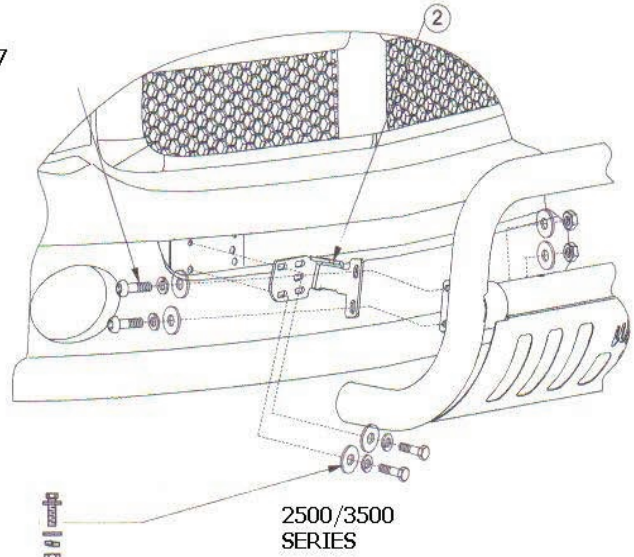

FIGURE 3-INSTALLATION VIEW OF PASSENGER SIDE, DRIVER SIDE OPPOSITE
1. Determine passenger and driver brackets. See figure 3. Remove tow hooks. Keep fasteners for reinstallation.
Note: 1500 models use two inside slots. 2500 / 3500 models use outside most slots. Vehicles with tow hooks use factory fasteners to attach brackets, otherwise use M10 fasteners. Leave loose. See figure 3.
4. Attach bull bar to brackets using M10 fasteners as shown. Make sure mount tabs on hoop are inside brackets. Leave loose. See figure 3.